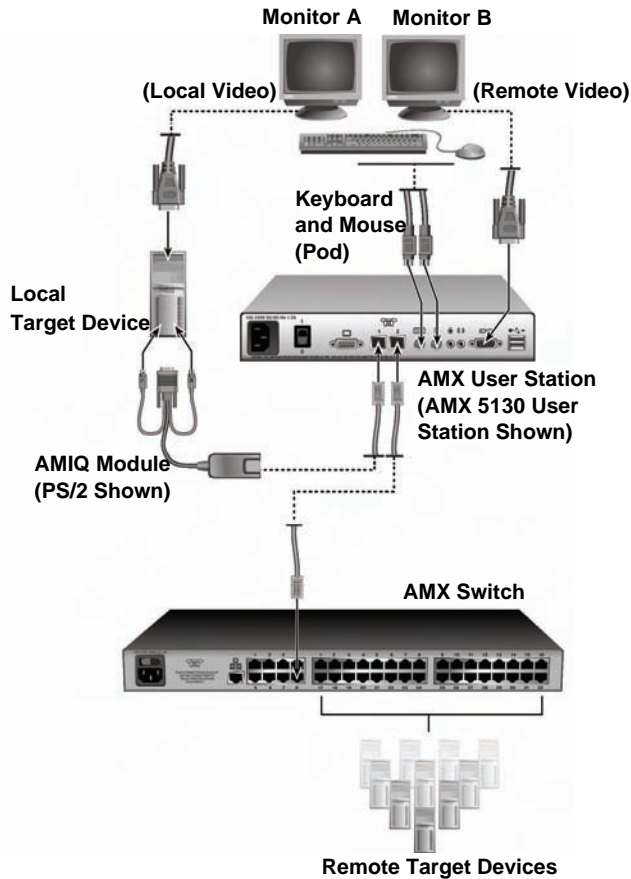

Figure 1.1: AMX Switching System Configuration for Pod Switch Mode
- The AMX switching system configuration should be similar to the example shown in Figure 1.1.
Figure 1.1 illustrates an AMX switching system configured for pod switching. The dual port user station is connected to the AMX switch for remote target device access and also to a local target device. An AMIQ module is connected to the local server, and the video connector is left unconnected. One monitor is connected to the local target device and another monitor is
2. The OSD Command Line will appear on the remote target device monitor (Monitor B in Figure 1.1).